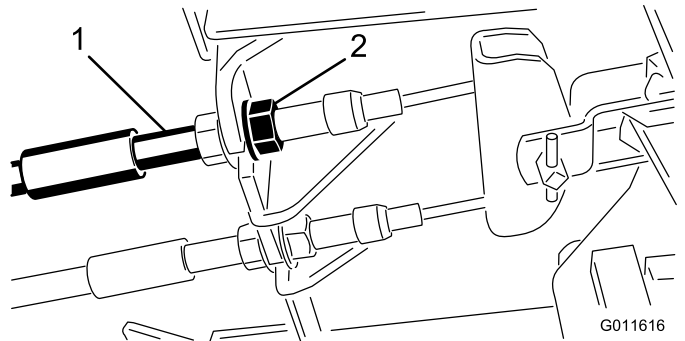

Figure 75
1. To reduce free travel of the brake pedals, tighten the brakes by loosening the front nut on the threaded end of the brake cable (Figure 75).